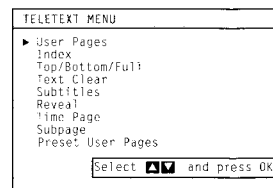

Fig. 37.
- 1 Press MENU. The menu will be superimposed on the teletext display. (See Fig. 37)